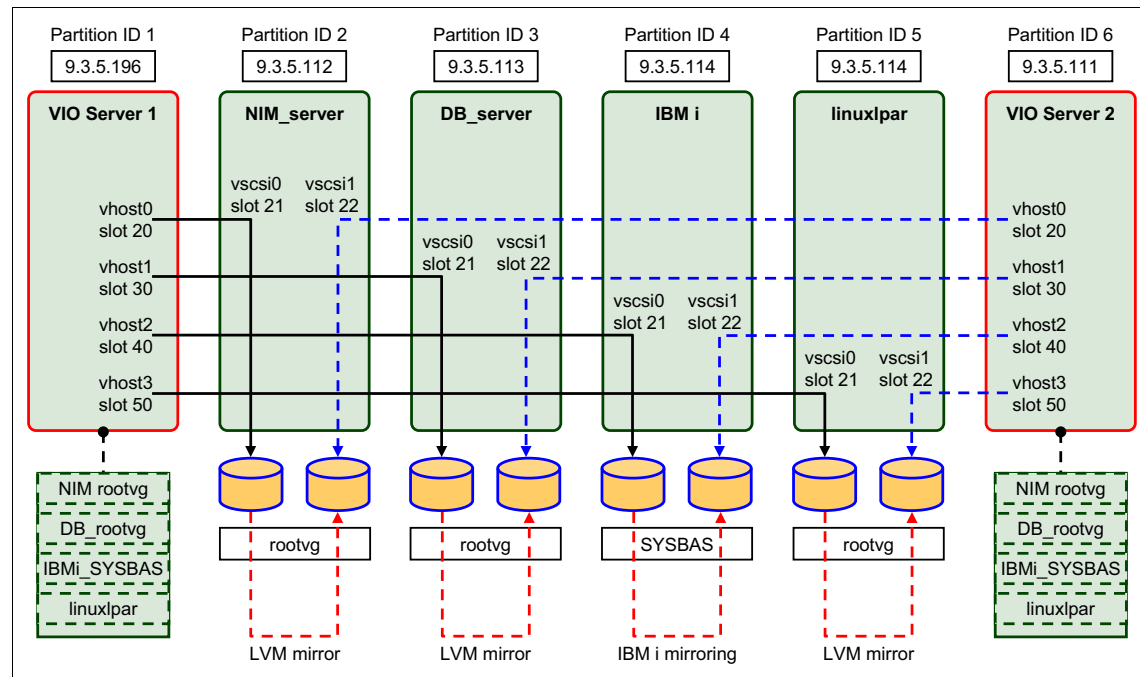
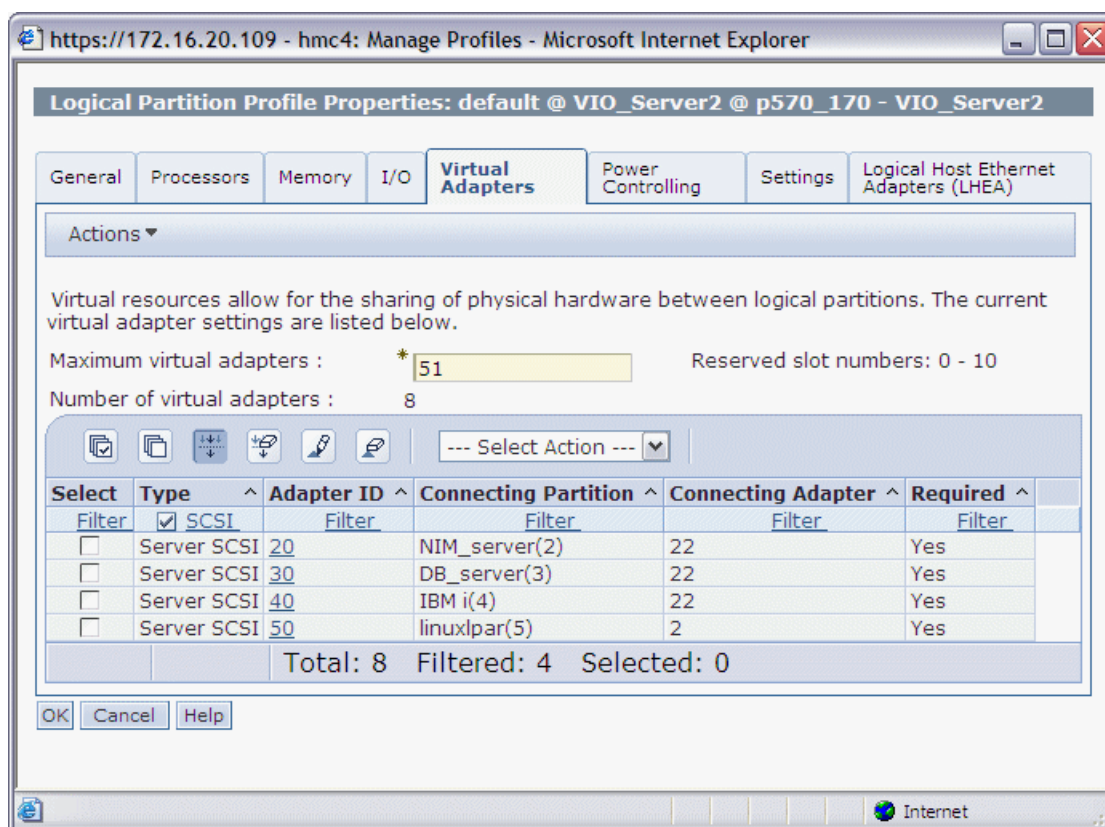

Figure 16-39 Redundant Virtual I/O Server client mirroring scenario
Figure 16-41 Virtual SCSI adapters for VIO_Server2
This scenario shows how to set up a highly available virtual SCSI or virtual Fibre Channel (VFC) configuration using mirroring in the client partition. In our example shown in Figure 16-39 each client partition is configured with two virtual SCSI adapters. Each of these virtual adapters is connected to a different Virtual I/O Server and provides virtual SCSI LUNs to the client partition.
4. Create the client partitions as shown in Figure 16-39 on page 535 following the instructions in “Creating a Virtual I/O Server” on page 312. Each client partition needs to be configured with two virtual SCSI adapters as shown in Table 16-7 on page 537. Figure 16-41 shows the virtual SCSI adapter configuration for VIO_Server2 on the HMC.
Tip: In Figure 16-41 there is a filter applied to the *Type* column so that only the virtual SCSI adapters are shown.